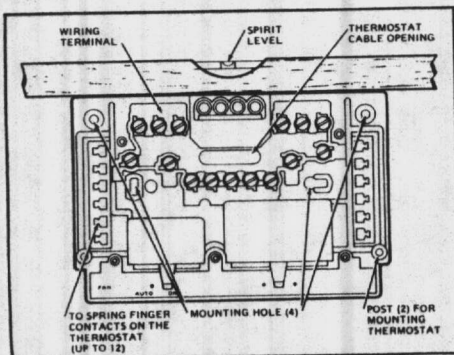

Fig. 3—Subbase components and leveling procedure.
2. Pull wires through the cover plate (if used) and thermostat cable opening (Fig. 3).
4. Level the subbase using a spirit level, as shown in Fig. 3, and firmly tighten subbase mounting screws. The subbase mounting holes provide for minor out-of-level adjustments.